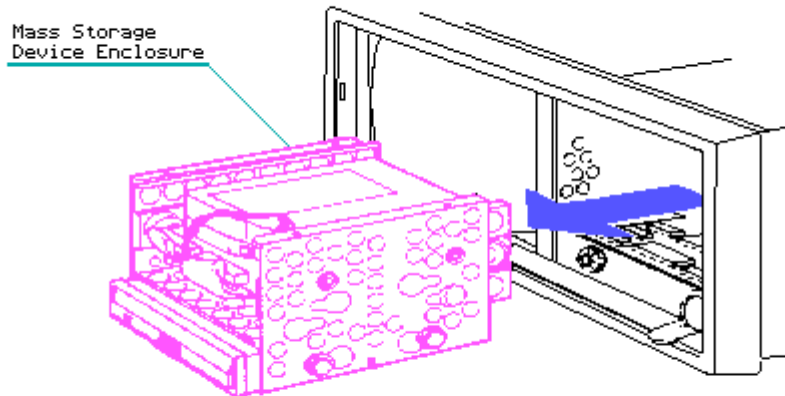

Figure 7-58. Removing the Mass Storage Device Subassembly Enclosure
7. Grasp the sides of the mass storage device subassembly enclosure firmly and slide the enclosure out of the system chassis (Figure 7-58).